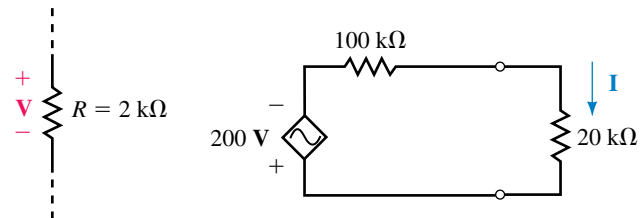

FIGURE 19-48
2. Refer to the circuit of Figure 19-48.